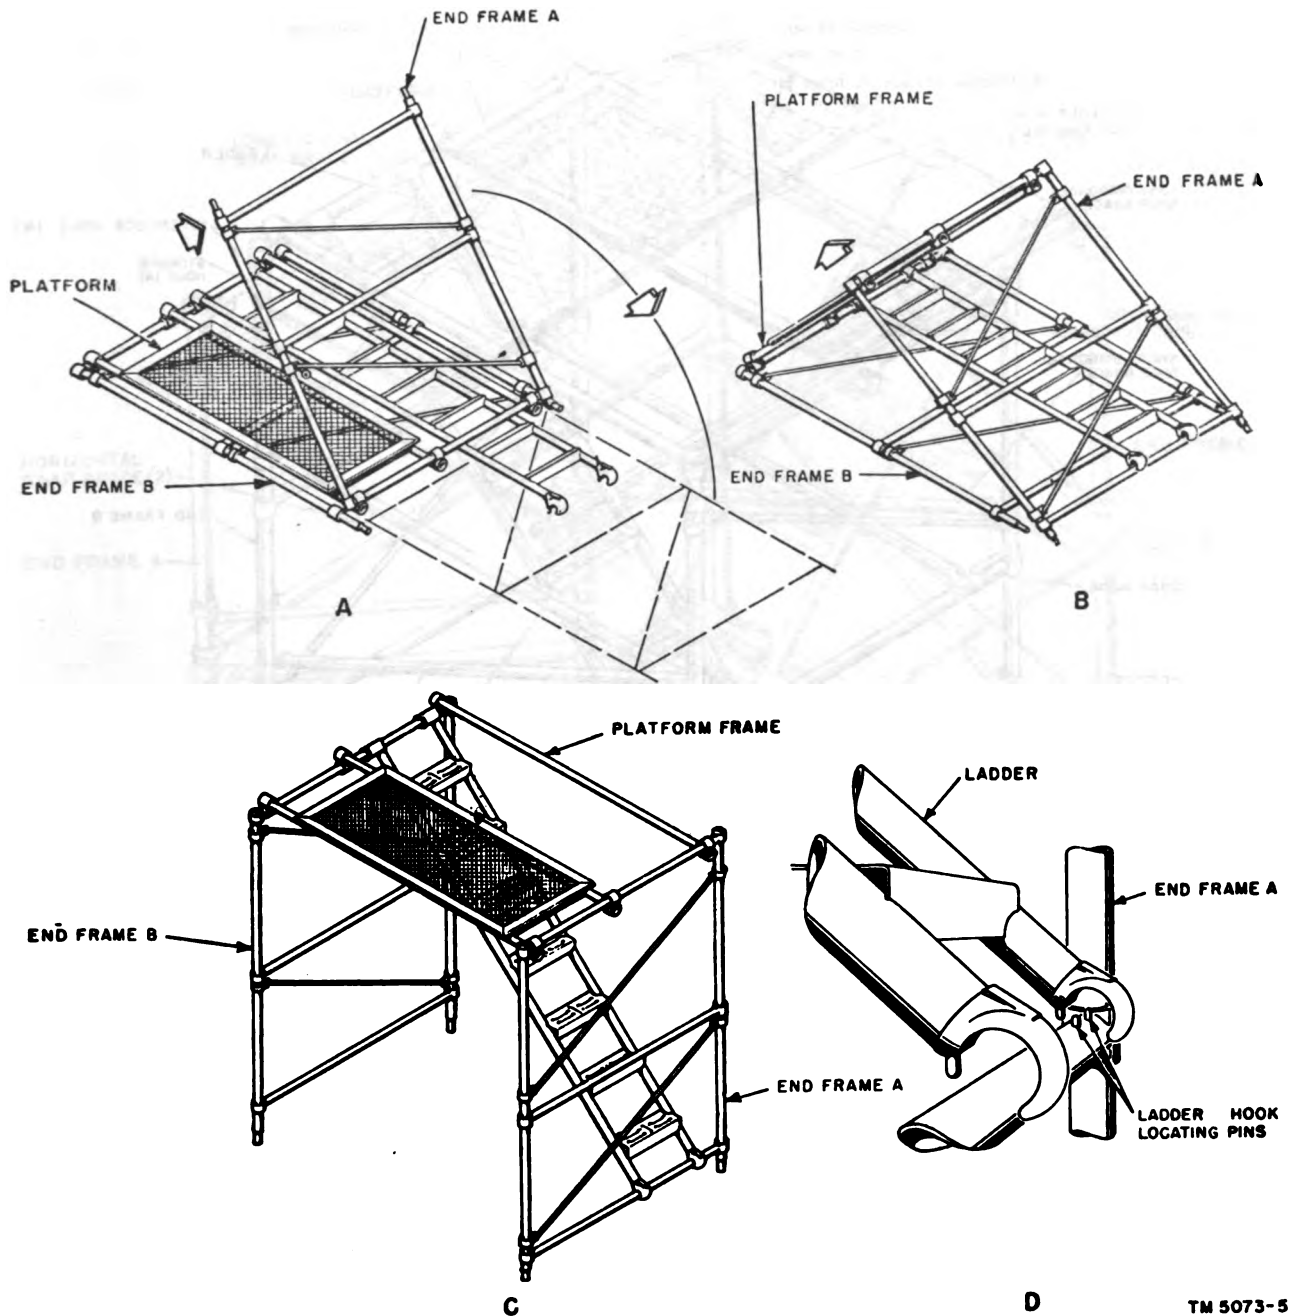

Figure 3. Unfolding Tower Section AB-208/U or AB-207/U.
19. Assembly of Tower Sections AB-208/U and AB-207/U (Figs. 3 and 4)
b. Grasp the unattached end of end frame A (A, fig. 3) and rotate this frame 180° so that it lies flat on the ground as indicated in A, figure 3.
c. Raise the end of the platform frame that is attached to end frame A until it is at a right angle to the platform frame (B, fig. 3) and secure the ladder to the lowest member of end frame A. Place the snap hook on the free end of the outer tube of the ladder between the two locating pins on the horizontal member of the end frame (D, fig. 3).
the platform frame in a horizontal position (C, fig. 3).